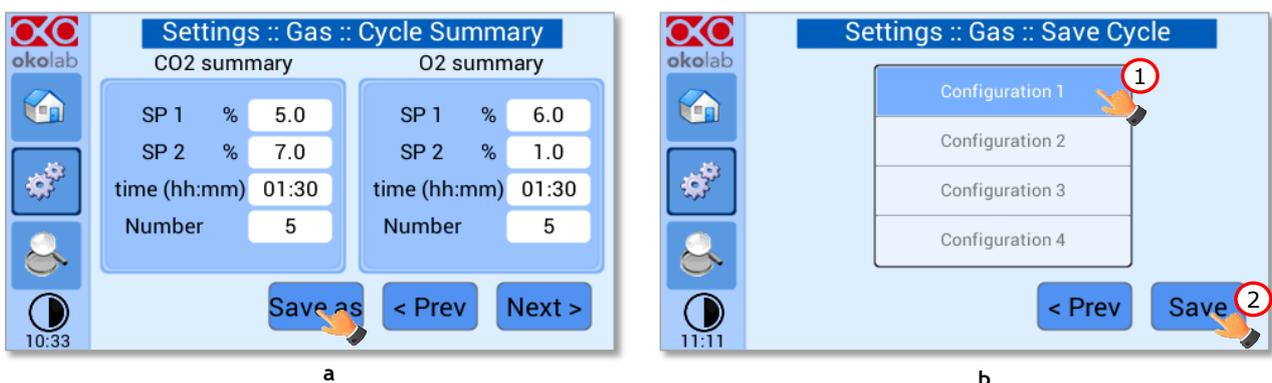

Figure 38. Cycle Summary and Configuration Saving (a - b).
4. Once you have adjusted the settings, the *Cycle Summary* page will be displayed (see Figure 38 a). Press *Save as* if you want to save the CO₂/O₂ Cycle program to be recalled for future experiments.